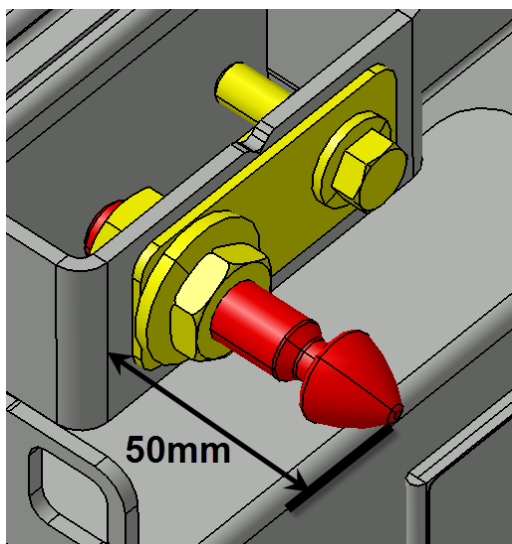

FIGURE 120
11. Before adjusting the pin, make sure that it doesn't exceed more than 2" (50mm) at the first closing of the door (FIGURE 120). Damage to the door can result if this condition is not respected.